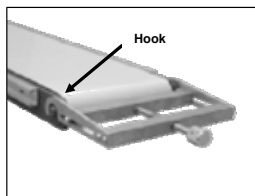

Fig. 4
2. Install the belt tensioning tool with hook connector over the belt tension lock screw washers. (See arrows, figs. 4 & 5)
3. Turn the knurled adjustment knob(s) on the tensioning tool clockwise until the tensioning cross brace is against the conveyor siderail ends. On the 2-knob tensioning tool, alternately turn the knobs on either side in 1/2-turn increments to maintain equal distance between fixed and tensioning cross-braces. (figs. 4 & 5)